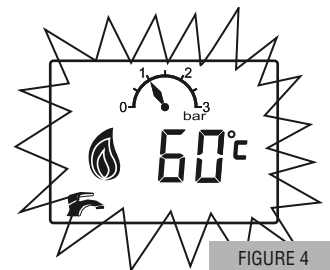

FIGURE 4
When the hot water is called for by turning on the hot tap, the boiler will fire. The display will show the full flame symbol, water temperature and flashing tap symbol, until the hot tap is turned off and the display will return to standby or heating mode. See Figure 4.
3. DHW being supplied. Figure 4.